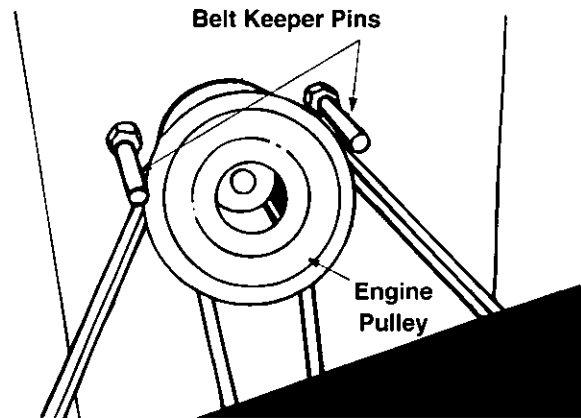

Figure 22
NOTE: Figure 22 and 24 are shown with the unit tipped up for clarity. It is not necessary to tip the unit to remove the belts.
NOTE: When reassembling, make certain belt keeper pins are assembled in the same locations from which they were removed. See Figure 22.
4. Remove the belt keeper pins from the lower frame. See Figure 22.